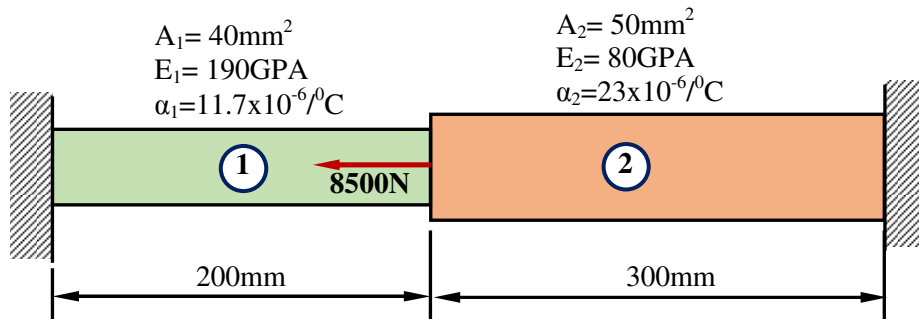

Fig. 2
b) Determine the nodal displacements, stresses and reaction forces at the supports of the bar shown in Fig 2. The temperature of 2nd element is increased by 50°C. 8M